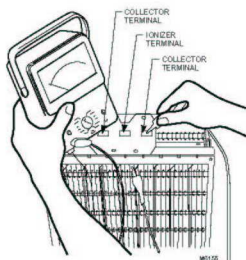

Fig. 9. Using ohmmeter to check electronic cells for short circuits.
3. Check the cell for short circuits using an ohmmeter. Check the resistance between cell frame and both the ionizer and the collector contacts. Verify the resistance is infinite for each. See Fig. 9.